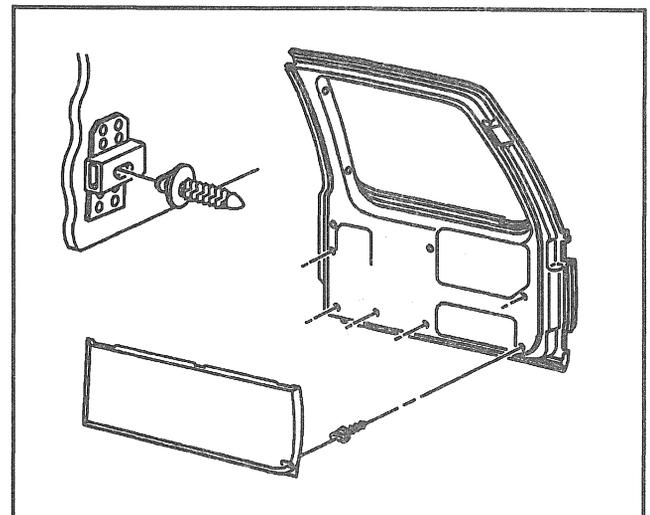

Figure 73—Rear Side Door Lock Actuator Wiring Connector and rivets
↔ Remove or Disconnect (Figures 73 and 74)
3. Actuator lock control rod (Figure 73).
4. Actuator wiring connector (Figure 73).
↔ Install or Connect (Figures 73 and 74)